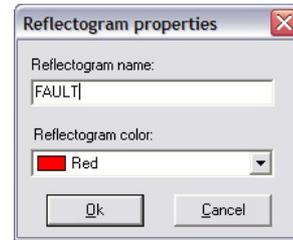

Fig. 5.4 Editing of parameters of the reflectogram-plot
- To change color and the plot name (Fig. 5.4). For this it is necessary to click twice under the list of reflectograms. The plot name is not unique (i. e. names can repeat) and can contain to 32 symbols.